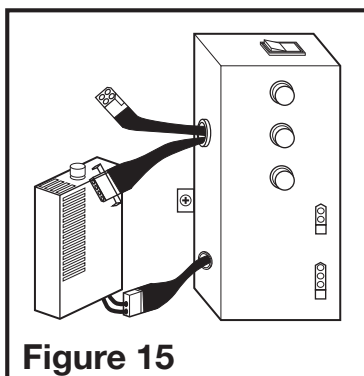

Figure 15
- 3d. **Humidity and Motion Sensing:** Plug the fans 2 pin and 3 pin quick connect motor cords into the corresponding receptacle located on the wire compartment cover. Connect the two pin connector from the humidistat compartment to the two pin connector from the side of the wire compartment cover. These cords only fit one way into the receptacles (**Figure 15**).